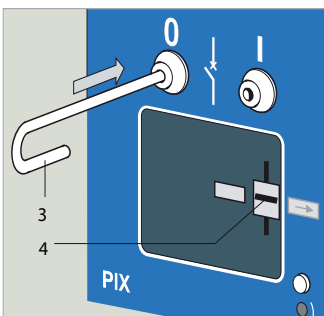

Fig. 10.20
Insert the operating rod into the left-hand guide of the front door and press it right to the back (Fig. 10.20, 3). The circuit-breaker is switched OFF. The position indicator indicates "OFF" (4).